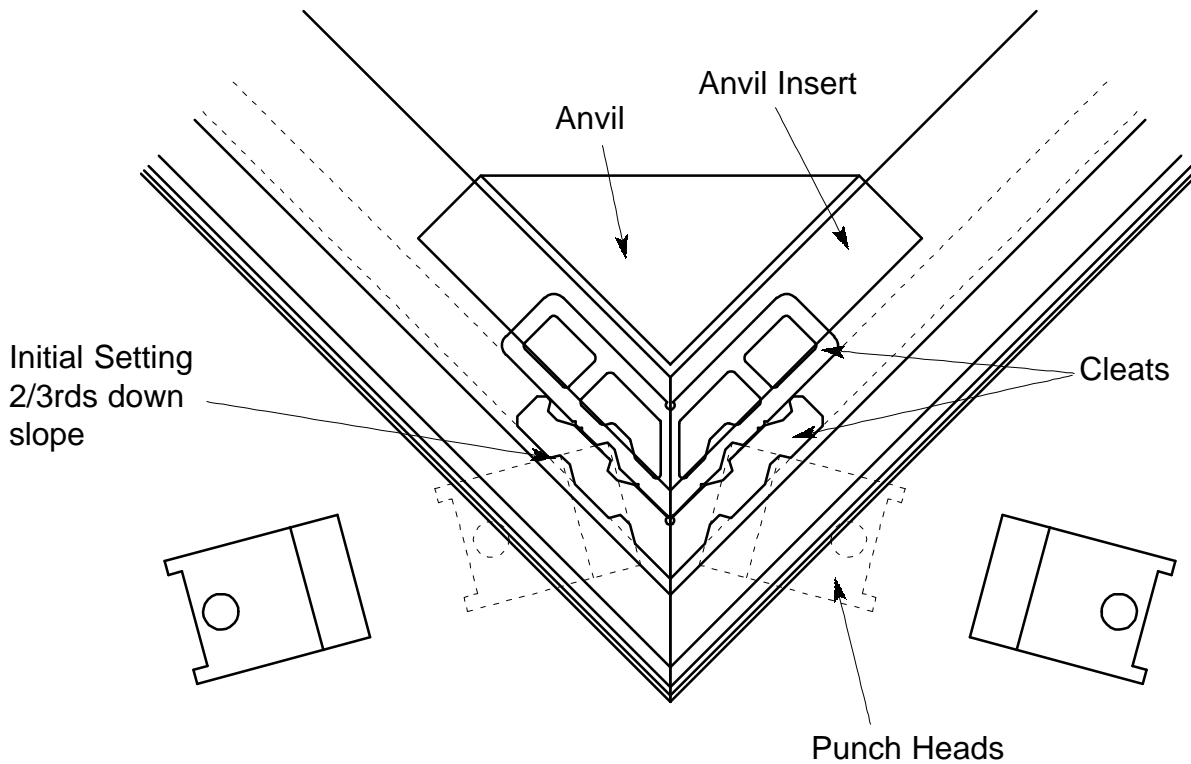

Figure 1.2 - Simple Layout
5. The punch heads should ride down the slope until the link arms lock into a straight line with the punch heads. The initial setting for the depth to which the punch heads should run is approx. two thirds of the full depth - Fig 1.2. The optimum setting is best established by carrying out test crimps and checking results.